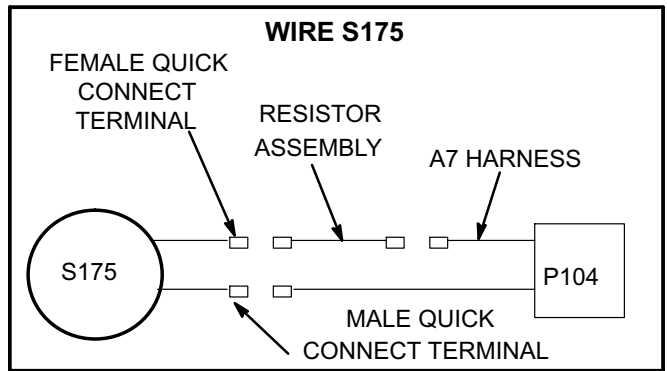

FIGURE 8
- 1- Make wiring connections as shown in figures 8 and 10. Secure harness with wire tie provided in kit.